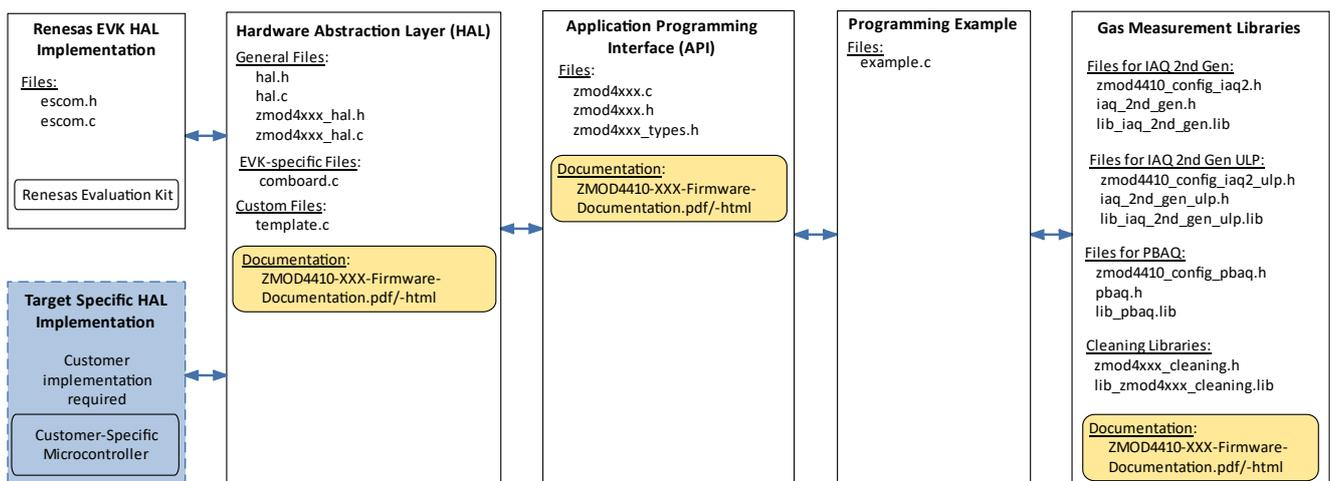

Figure 1. File Overview for ZMOD4410 Firmware
To operate the ZMOD4410 and use its full functionality, the following five code blocks are required (see Figure 1):
1. The “Target Specific I²C and Low-Level Functions” block is the hardware-specific implementation of the I²C interface. This block contains read and write functions to communicate with the ZMOD4410 and a delay function. For the use with Renesas EVKs, there are implementations for ESCom and HiCom boards provided with the ZMOD4410 firmware package. Using the user’s own target hardware requires implementing the user’s target-specific I²C and low-level functions (this is highlighted in light blue in Figure 1).
To set up firmware for an Arduino target, Renesas provides the above-mentioned EVK examples also as an Arduino example. These examples have a similar structure as shown in Figure 1 but with a HAL dedicated for Arduino, an Arduino-compatible structure, and Arduino-specific files. An Arduino IDE with version 2.0.0 or higher is needed.